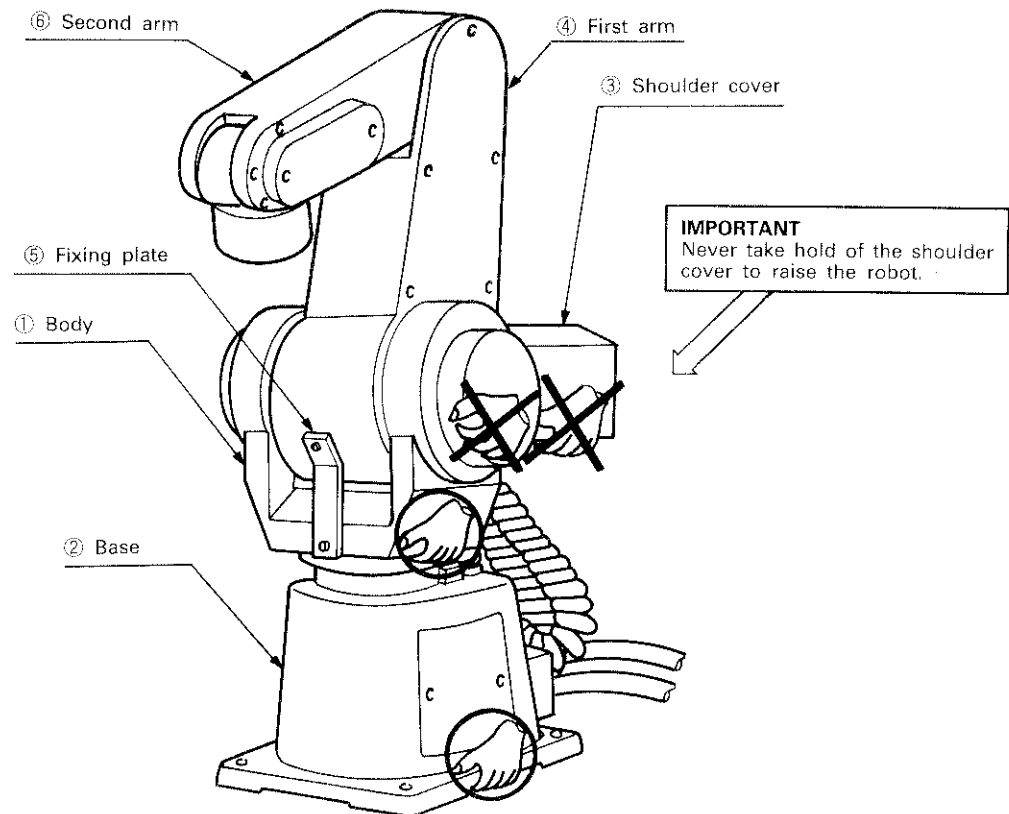
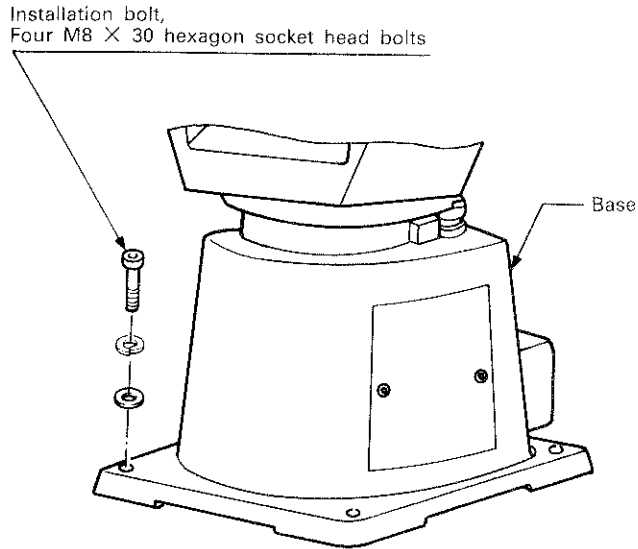
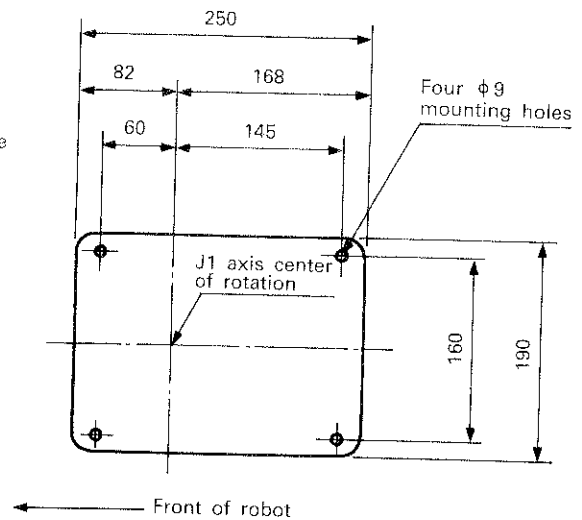

Fig. 2.1.1 Transportation of the Robot
Fig. 2.1.2 Installation of the Robot
Fig. 2.1.3 Robot Installed Dimensions
- (1) Fig. 2.1.1 shows the locations to be held by hands when transporting the robot.
- (2) Before transporting the robot, release the brakes in accordance with Section 2.2.4, Vol. 2, move the first arm (4) in the positive direction and the second arm (6) in the negative direction until they are pressed against the stoppers as shown in Fig. 2.1.1, and install the arm fixing plate (5) to the first arm (4) and body (1).
- (3) When raising the robot, take hold of the underside of body (1) or base (2) with your both hands.
- (4) Never take hold the sides or back of shoulder cover (3), or damage to the cover or personal accident could result.
- (5) The fixing plate (5) must be reinstalled before transportation to protect the arm (4) (6) during transportation. The robot must be transported in the attitude shown in Fig. 2.1.1.
- (6) The above paragraph (2) must be followed when the robot is installed on the other equipment and transported together with that equipment.
- (1) Fig. 2.1.2 shows how the robot is installed.
- (2) The robot mounting surface has been machined for accurate installation. Using the  $\phi 9$  mounting holes provided at four corners of the base and the installation bolts (M8 X 30 hexagon socket head bolts) furnished, secure the robot onto the floor.
- (3) It is recommended that common surface plates be used to ensure that the robot is properly aligned with the equipment, jigs, and fixtures on which the robot works.
- (4) Surface roughness of the surface plates onto which the robot is to be secured must be  $\nabla\nabla$  or more. A rough surface is the cause of poor contact between the robot and surface plate, resulting in misalignment.
- (5) The fixing plate (4) is installed before shipment as shown in Fig. 2.1.1 to protect the arm (5) during transportation. Remove this plate before operating the robot.
- (6) The customer should keep the fixing plate as it must be used when transporting the robot.
- (7) Fig. 2.1.3 shows the installed dimensions of the robot.
- (8) Remove the arm fixing plate after the installation is complete. When the robot is transported on a surface plate, this plate must be kept fit on the robot until the robot is finally installed.